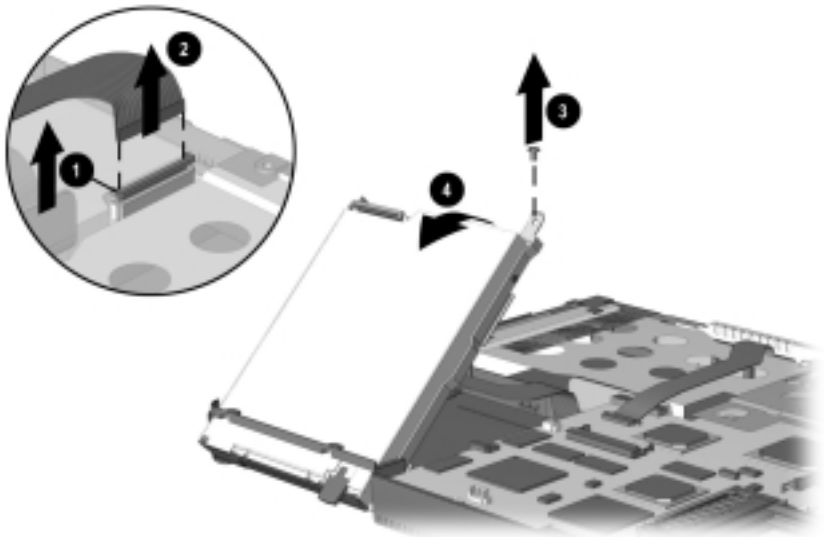

Figure 5-23. Removing the Diskette Drive
2. Release the ZIF connector that connects the diskette drive ❶ (Figure 5-23).
3. Disconnect the diskette drive cable ❷.
4. Remove the screw that secures the diskette drive to the base enclosure ❸.
5. Lift up on the back of the diskette drive ❹ and remove it.